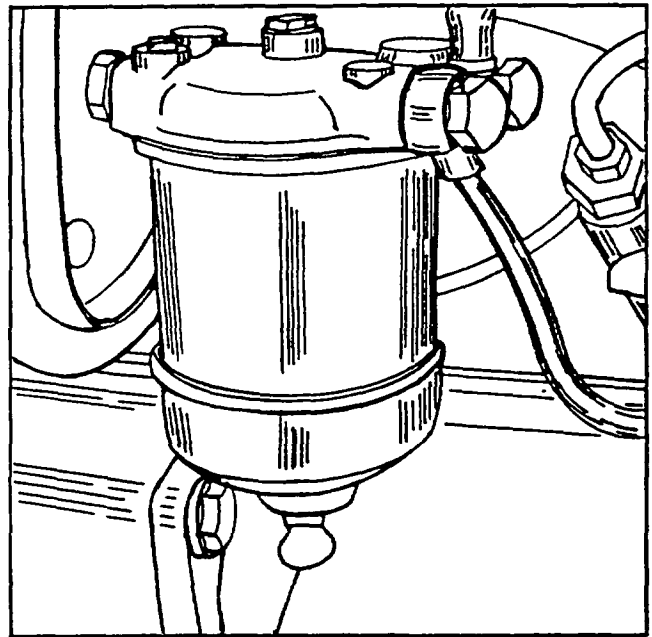

Fig. 59 - Primary Fuel Filter
PRIMARY FUEL FILTER (Ref. Fig. 59)
After every 60 hours of operation, loosen the lower screw in the primary fuel filter 3 or 4 turns. Stroke the fuel lift pump hand lever (Ref. Fig. 59, item 6) until the water and sediment in the bowl are pumped out. Tighten the lower screw.